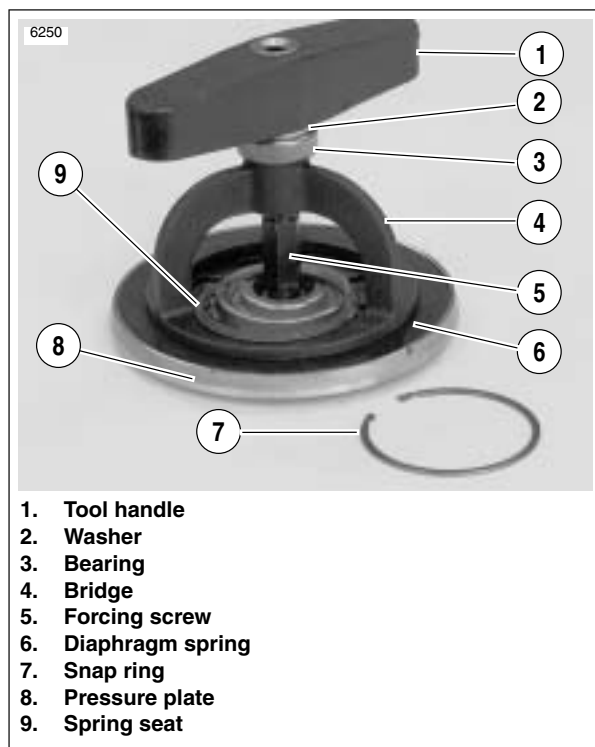

Figure 6-22. Pressure Plate Assembly
See Figure 6-22. Turn compressing tool handle only the amount required to install spring seat and snap ring. Excessive compression of diaphragm spring could damage clutch pressure plate.
- c. See Figure 6-22. Install SPRING COMPRESSING TOOL (Part No. HD-38515-A) onto clutch hub against diaphragm spring.